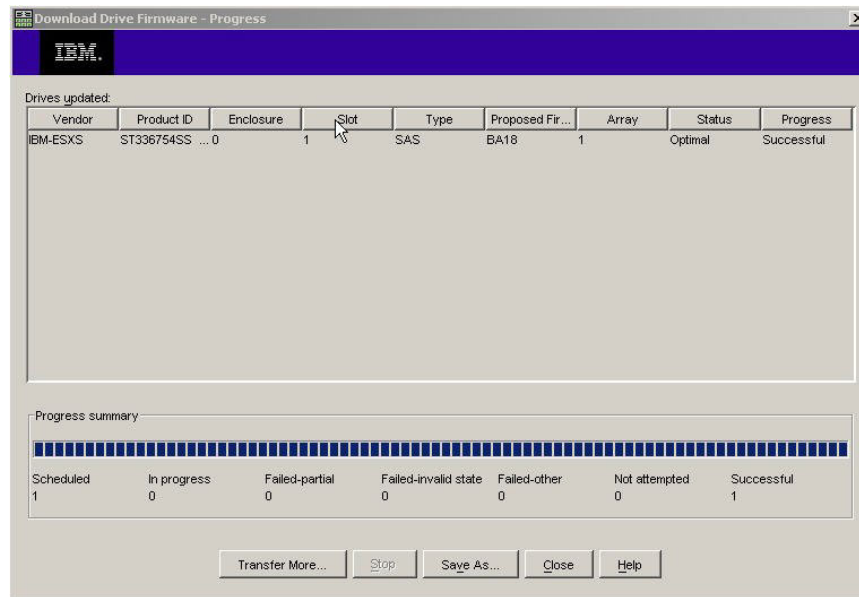

Figure 25. Download Progress window
10. When the Download Drive Firmware warning window opens and the message Do you want to continue? is displayed, type yes and click **OK** to start the drive firmware download. The Download Progress window opens, as shown in Figure 25 on page 99. Do not intervene until the download process is completed.